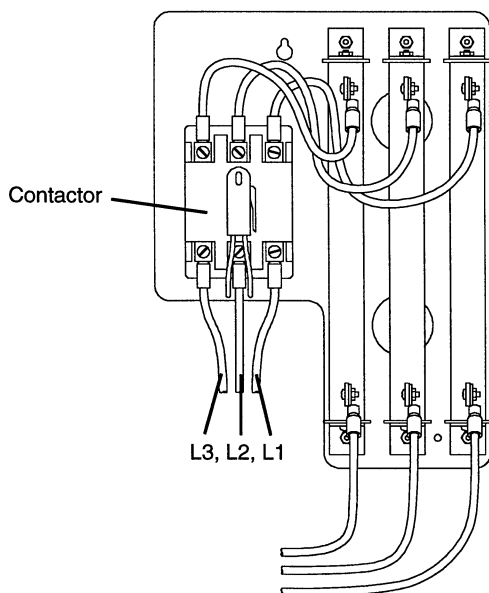
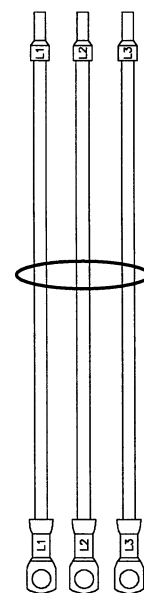

Figure 2 - Inrush Chassis Assembly 129271
Figure 3 - Loose wire group
1. To install the inrush protection upgrade to the 200V power supplies (077002 or 077016), remove the 3 wires labeled L1, L2 and L3 from the contactor of the inrush chassis assembly (Fig. 2) and replace with the loose wire group that came with the kit (Fig. 3).